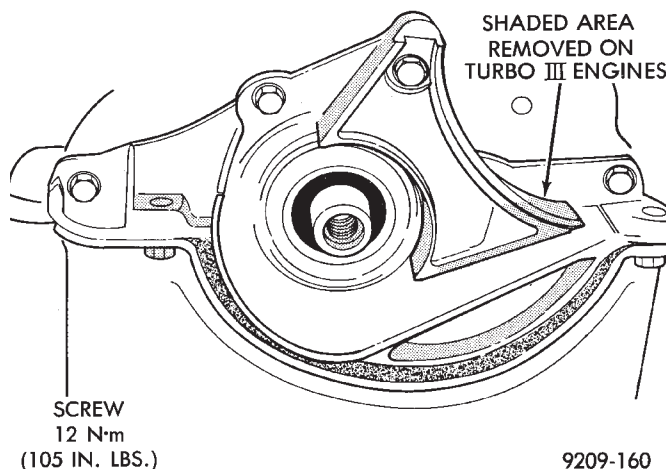

Fig. 5 Front Crankshaft Oil Seal Retainer
(1) Remove retainer screws (Fig. 5).